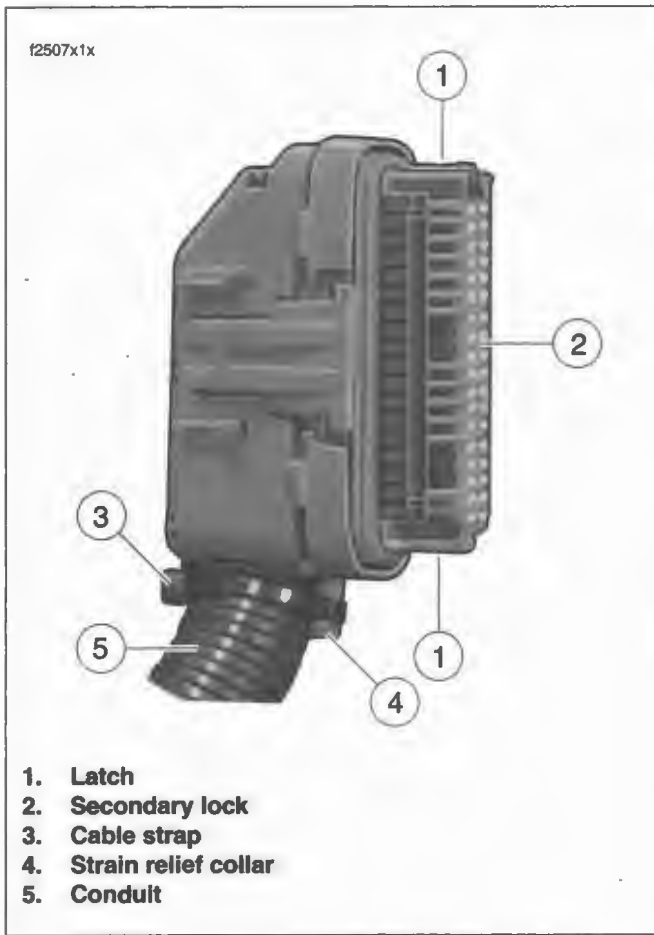
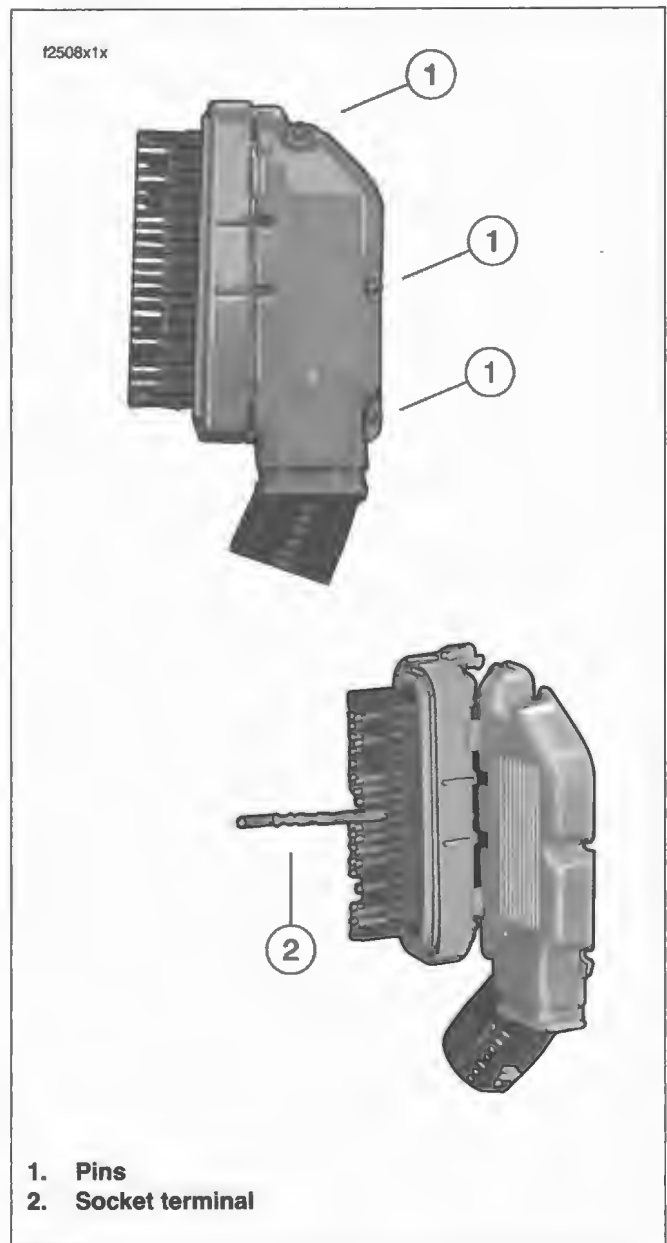

Figure B-36. Packard 100W Connector
Figure B-37. Separate Halves of Socket Housing
1. See Figure B-36. Gently depress latch (1) on each side of the clear plastic secondary lock (2) and remove. For best results, release one side at a time.
2. Carefully cut cable strap (3) to free strain relief collar (4) from conduit (5).
3. See Figure B-37. Using a thin blade, gently pry at seam at back of socket housing to release three plastic pins (1) from slots in housing. Separate and spread halves of socket housing.